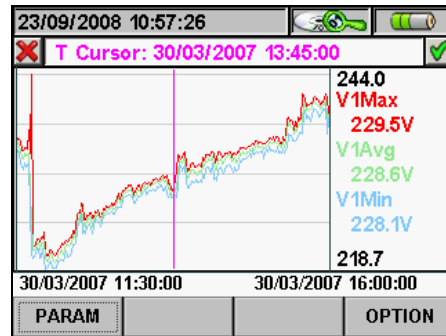

Fig. 141: Recording graph
- The **ENTER** key (or the smart icon on the display) confirms the selection previously performed and display the graph of the selected parameter (Fig. 141)